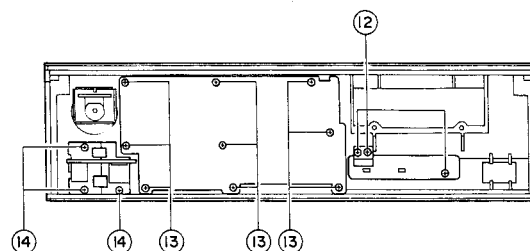

Fig. 2-4
■ Front Panel Interior Parts: See Fig. 2-4